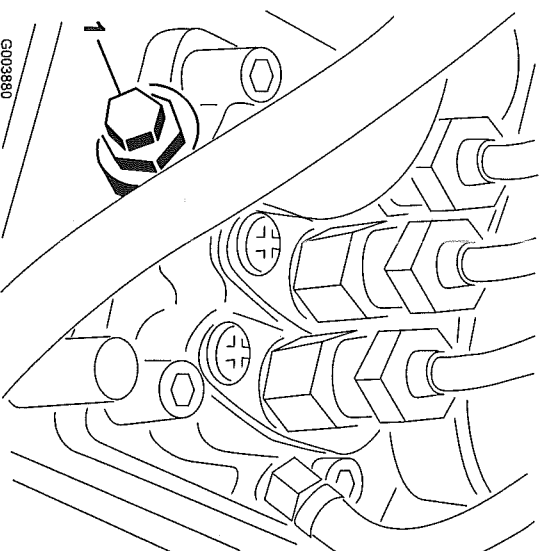

Figure 22
3. Open the air bleed screw on the fuel injection pump (Figure 22).